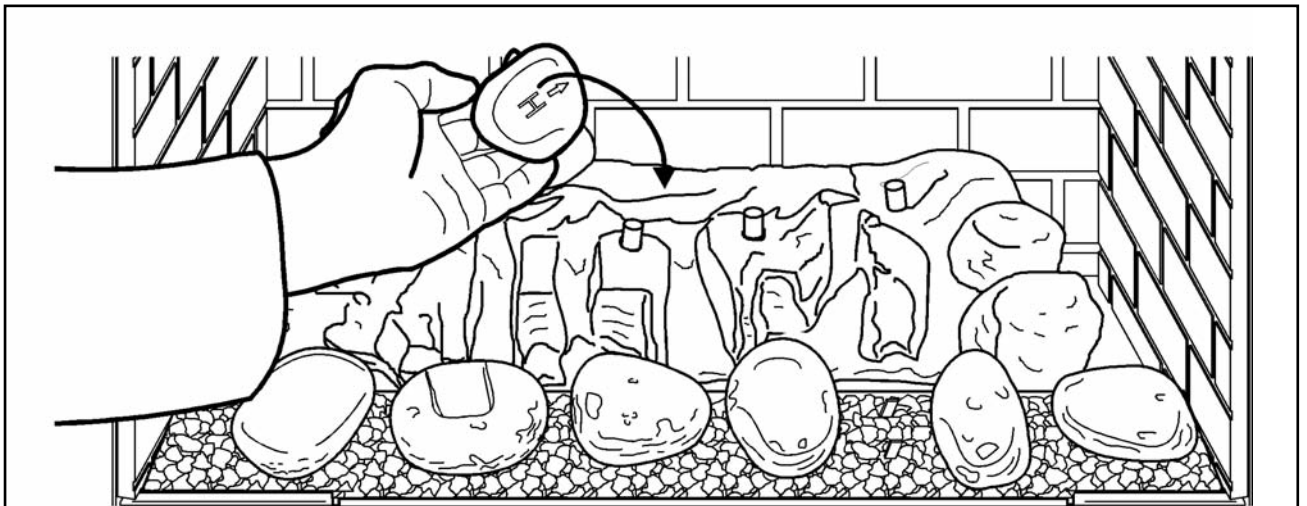

Figure 11. Fitting pebble 'H'
11. Hold pebble 'H' as in figure 11 so that the arrow points towards the rear of the fire. Locate pebble 'H' onto the top of the fuel effect base as in figure 11.